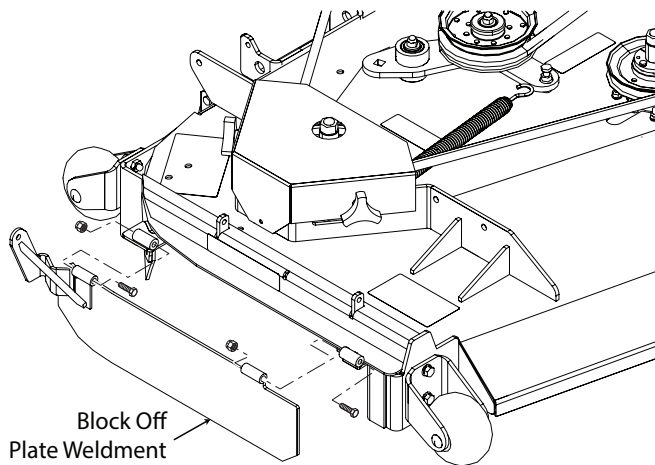

Figure 3-11. Block Off Plate Weldment Installation
17. Install the block off plate weldment to the front and rear hinge brackets using two (2) 5/16-18 x 3-1/2" bolts and two (2) 5/16-18 elastic stop nuts. See Figure 3-11. Do not tighten the bolts completely. Secure the hardware so the block off plate weldment moves freely.